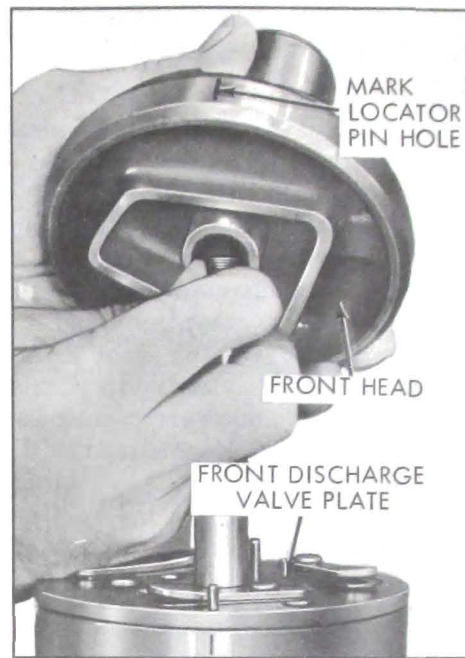

Figure 11-91—Placing Front Head on Cylinder Assembly
3. Assemble front discharge valve plate, aligning holes with dowel pins and proper openings in head. See Figure 11-91.
5. Examine location of dowel pins and contour of webs and mark dowel location on head with pencil as shown. Rotate so as to position it properly over discharge reed retainers. Use care to avoid damaging teflon surfaces. See Figure 11-91. When in proper alignment, seat on front discharge plate with light mallet taps.